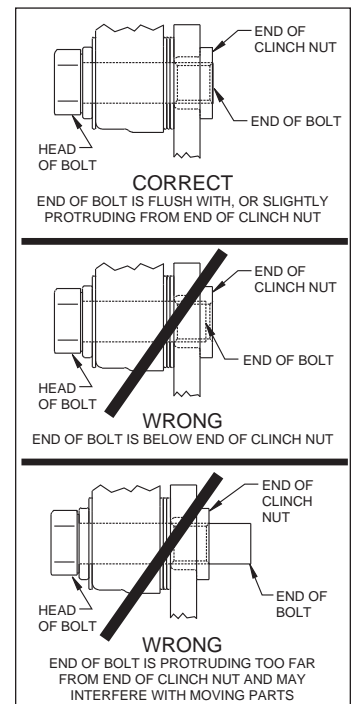

Figure 5. Clinch Nut Engagement Diagram
Assembly Instructions (numbers in parenthesis refer to the parts list, and Figure 2 on the preceding pages): **CAUTION:** All mounting bolts must fully engage clinch nuts. Be sure to check that all bolts are either flush or protruding through flanged side of clinch nut after shimming, Figure 5.
- Pack the small outer bearing cone (14) with high temperature disc brake bearing grease and install into hub (7). Slide the hub/rotor assembly onto the spindle. Secure using spindle washer (15) and OEM spindle nut, Photo 7. Adjust bearings per OEM specifications. Install saved OEM nut lock (if any) and a new cotter pin (not included).
- Screw dust cap (17) into hub (7), Photo 8. Friction created by the o-ring (16) on the dust cap keeps it from unscrewing. **NOTE:** The O.D. of the existing OEM spindle washer may be larger than the I.D. of the dust cap not allowing it to seat against the hub face. Therefore, use the spindle washer (15) supplied with the kit instead of the OEM washer.
- NOTE:** Please reference the caution statement at the beginning of the assembly instructions. Mount the caliper (18) onto the caliper mounting bracket (1) using bolts (20) and washers (19), as shown in Figure 2. Initially place two .035" thick shims (21) on each bolt between the caliper and the bracket, Photo 9. Temporarily tighten the mounting bolts and view the rotor (11) through the top opening of the caliper. The rotor should be centered in the caliper, Photo 10. If not, adjust by adding or subtracting shims between the bracket and the caliper. Always use the same amount of shims on each of the two mounting bolts. **NOTE:** The end of each bolt must be flush with or slightly protruding from the head of the clinch nut, as shown in Figure 5. If necessary place spare shims between washer (19) and caliper mounting ear to achieve the proper clinch nut engagement. Once the caliper alignment and clinch nut engagement are correct, remove the bolts one at a time, apply red *Loctite*® 271 to bolt threads, and torque to 40 ft-lb.
- Install the disc brake pads (22) into the caliper, with the friction material facing the rotor (11), and secure in place using cotter pin (23), Photo 11.